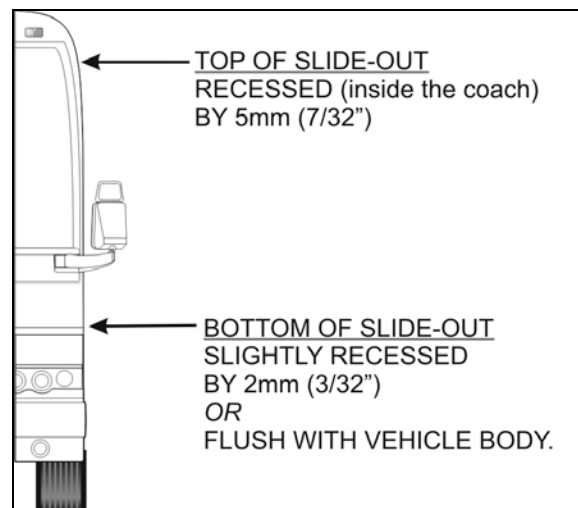

FIGURE 27: TILT ADJUSTMENT
- Using leveling screw 3, adjust the tilt in order to have the top of the slide-out recessed by 5mm (7/32") (see Figure 27).